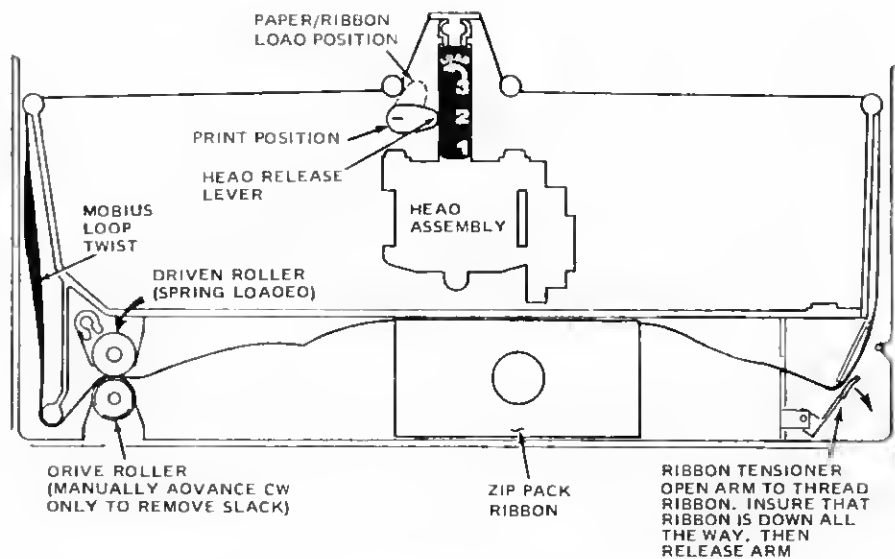

Figure 4. RIBBON THREADING DIAGRAM
When installing ribbon or paper always back print head away from platen, using head-release lever (Figure 4).
3. Retract head to the paper/ribbon load position by rotating head release lever (Figure 4) fully counterclockwise.
3. Retract the head by rotating the head-release lever (Figure 4) fully counterclockwise.
7. Pull ribbon out from both ends of Zip-Pack and thread as shown in Figure 4, being careful to position mobius loop twist on the left side.